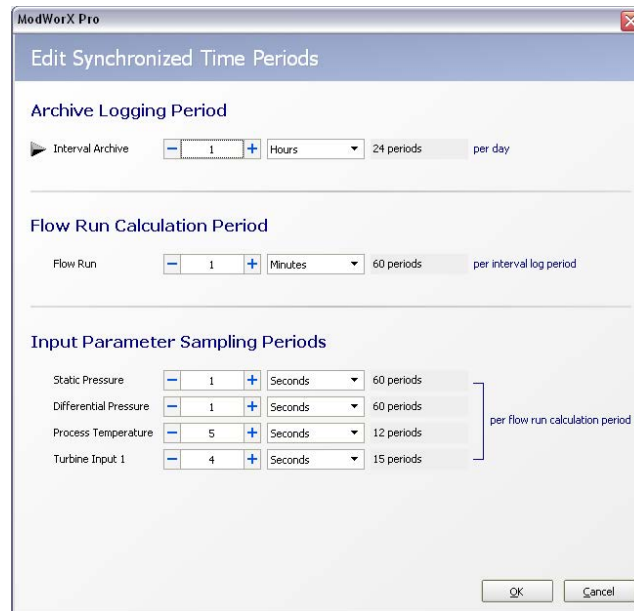

Figure 3.22
1. Click **Edit**. The Edit Synchronized Time Periods window will appear, and an arrow will point to the Interval Archive setting (Figure 3.22).